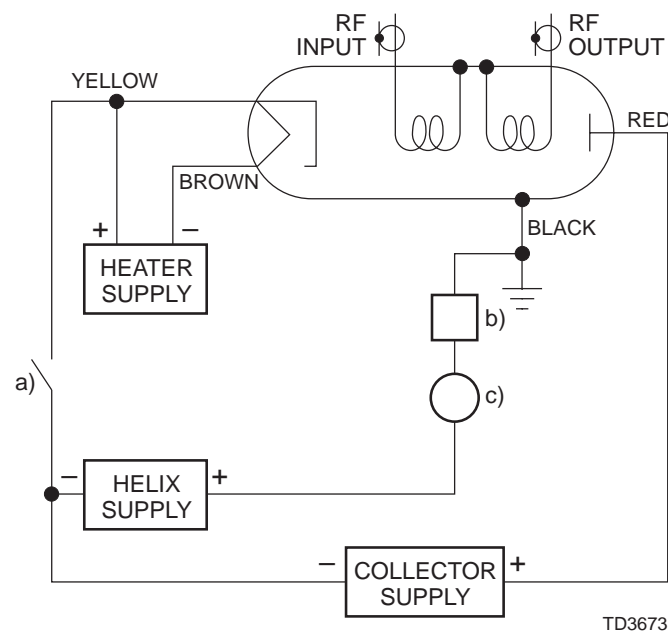

FIGURE 1.
Heater Voltage — Either an ac or dc heater supply may be used unless otherwise specified on the Test Performance Sheet. In some cases, an ac heater supply will damage the device. If an ac heater supply is used, there is no limitation on the frequency of the voltage. However, for minimum heater modulation, a direct-current heater supply may be used. If a dc heater supply is used, the yellow lead *must* connect to the positive side of the heater supply (see Figure 1). Product life will be greatly reduced if the heater polarity is reversed. Moreover, heater surge current should *never* exceed approximately two and one-half times the steady-state value.
Helix (Body) Current — An overcurrent relay (as depicted in Figure 1) should be part of the power supply and should remove the helix voltage (sometimes referred to as beam or cathode voltage) in a fraction of a second if the TWT body current exceeds the specified value. The relay trip level should be adjusted to 130 percent of the maximum current
Application of Voltages — Recommended operating voltages and currents are given on the product nameplate and are to be applied in the following sequence (see Figure 1):
2. **Anode Voltage.** Some of these device types have a control anode lead (blue). The anode would appear between the cathode and the helix (reference Figure 1). When the anode is at cathode potential, there is essentially no beam current flowing. When the anode is at helix (ground) potential, the device is in the "on" condition with full beam current flowing.
One method of operation for device types equipped with an anode connection is to permanently connect the anode to ground (reference Figure 1). Another method requires moving the optional high-voltage vacuum relay to the anode circuit and incorporating it into the on-off logic. Furthermore, the anode voltage may be made adjustable and used to control the beam current to any value between full off and full on. This approach can be used to control gain or power output; however, the gain change is much more rapid at the high end of the band than the low end of the band. Therefore, this type of control is not useful for most broadband applications .
5. **Rise and Fall Time Requirements.** If the optional high-voltage vacuum relay shown in Figure 1 is used, there are no constraints on the rise and fall times of the helix and collector supplies. It is only necessary to ensure that the relay cannot be closed until both supplies reach steady-state values and that the helix overcurrent sensor is capable of quickly opening the vacuum relay in case of overcurrent. However, it should be noted that this “off” condition does not ensure the absence of lethal voltages. Additional provisions must be made to turn off and discharge the helix and collector supplies before operating or service personnel can come in contact with the high-voltage connections on the device.